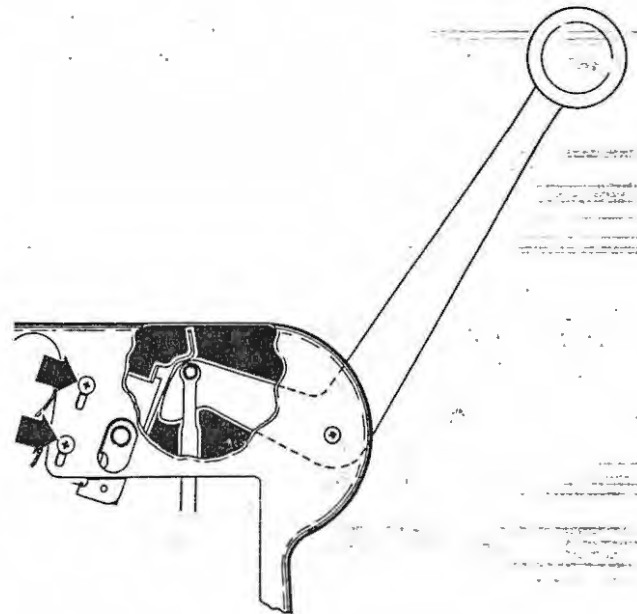

Figure 2-99. Warning Horn Switch Adjustment
- e. Move switches in contact with throttles until a click is heard indicating that the switches have closed (figure 2-99).